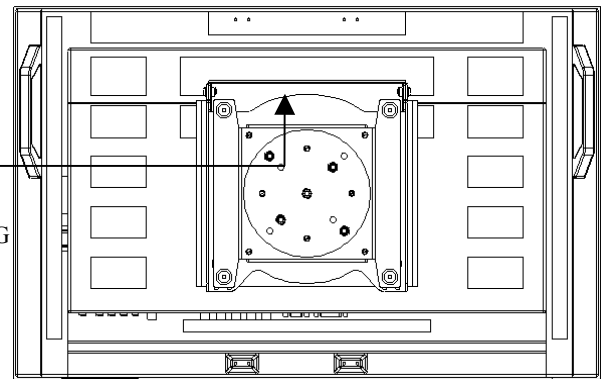

**Figure 4**
- Attach MAC-400 to MSB Interface Bracket by placing the mounting buttons of MSB into the teardrop slots of MAC-400. Make sure the mounting buttons are placed securely in teardrop slots. See Figure 4.